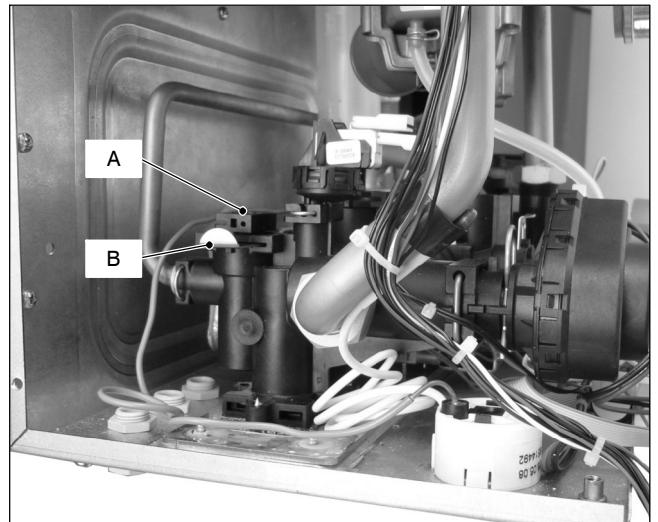

Fig. 16.2
- 3 Remove the locking plate B and pull up the by-pass valve A (Fig. 16.2).
- 4 Reassemble the by-pass valve as illustrated in Fig. 16.2 reversing the order of removal.